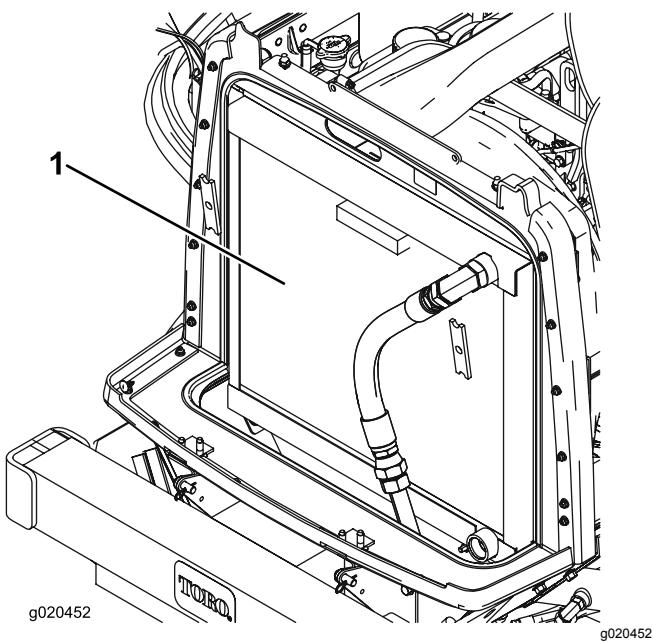

Figure 89
3. Clean both sides of the radiator/oil cooler area thoroughly with compressed air (Figure 89).